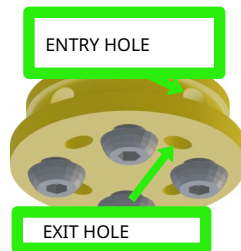

Figure 5.65:
4. Insert the end into the bottom left hole of the spooler and let it exit from the corresponding exit hole of the same spooler (figure 5.65), make sure that the amount of tendon coming out of the hole is long enough to prevent it from slipping out again.